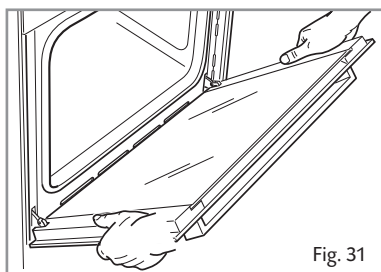

Fig. 31
- Hold the door as shown in fig. 31.